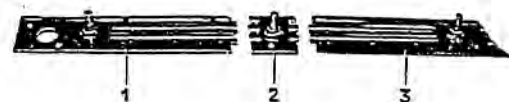

Fig. 83-2/8
**Note:** In order to unscrew the nuts with an articulated wrench (9) the red operating disks (4) and (5) for the mixed-air flaps are always moved into the opposite end position, i. e. to screw off the two outside nuts move the operating disks inward and to unscrew the center nuts move them outward (Fig. 83-2/6).